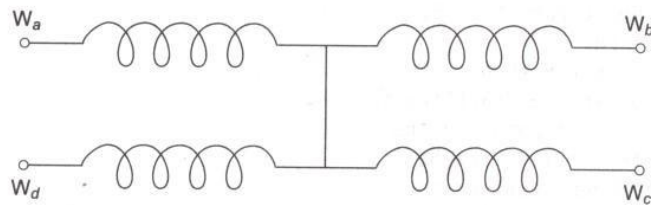

Fig.2 Winding arrangement of a stepper motor.
- Fig.2 shows a typical winding arrangement of the stepper motor.